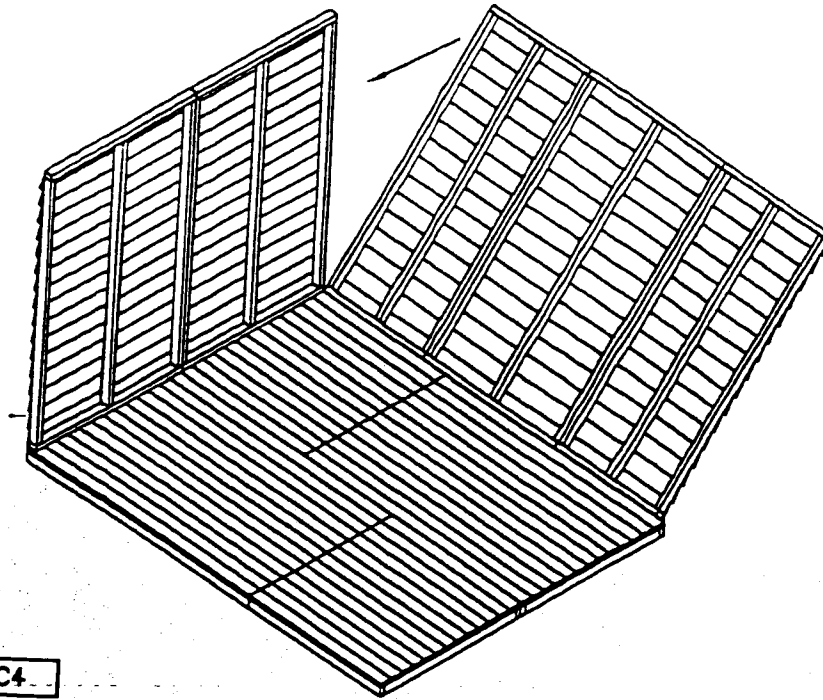

FIGURE C4
3. Then attach the 3 panels together for the sidewall and lift into place. The sidewall's 2x3 should meet the rear wall in a butt joint [see Figure C4]. The sidewall should be flush with the floor panels. Fasten 3" screws every 12"
4. Continue as in Figure C4 by erecting the window sidewall assembly. Again, the side panel 2x3's should be flush with the outer edge of the floor.